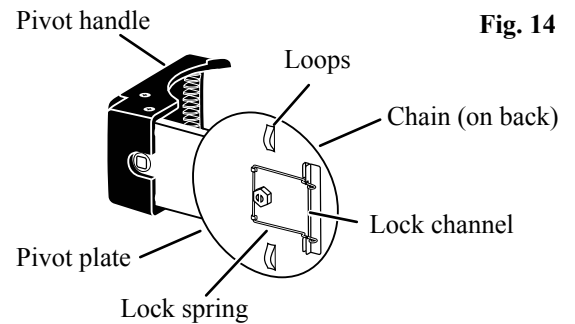
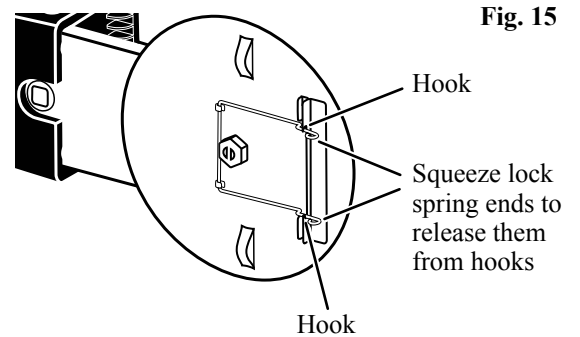
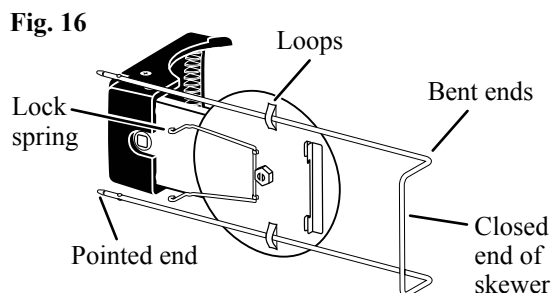
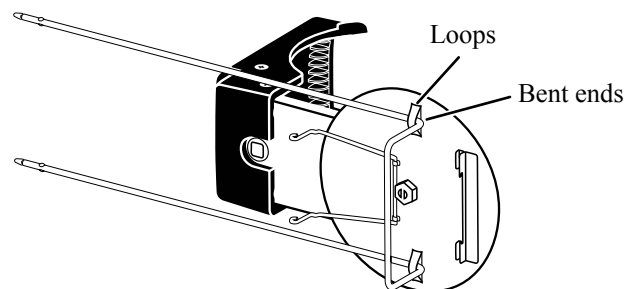

Fig. 14
Fig. 15
Fig. 16
Fig. 17
The pivot handle assembly contains the handle with ProFry™ printed on it, the chain, and a plate which rotates, hereafter referred to as the pivot plate (Fig. 14). You will be attaching the skewer to the side of the pivot plate opposite of the chain, which contains two loops, a lock channel with hooks, and a lock spring. When assembled correctly, the skewer will be secured in the channel with the lock spring.
**Step 1** Grasp the pivot handle with one hand. Rotate the pivot plate so the lock channel is opposite of and parallel to the handle (Fig. 14). Squeeze the ends of the lock spring together (Fig. 15) and rotate the spring so it rests against the plate, ends pointing toward the handle (Fig. 16).
**Step 2** Using your other hand, grasp the closed end of the skewer, which should be facing toward you, and slide the pointed ends through the loops (Fig. 16). Continue sliding the skewer toward the handle until the bent ends touch the loops (Fig. 17).
Step 4 Lock the skewer in place by returning the lock spring to its original position (Fig. 19). Squeeze the ends of the lock spring together and secure each side in its lock channel hook (Fig. 15, page 10). You are now ready to skewer the turkey.